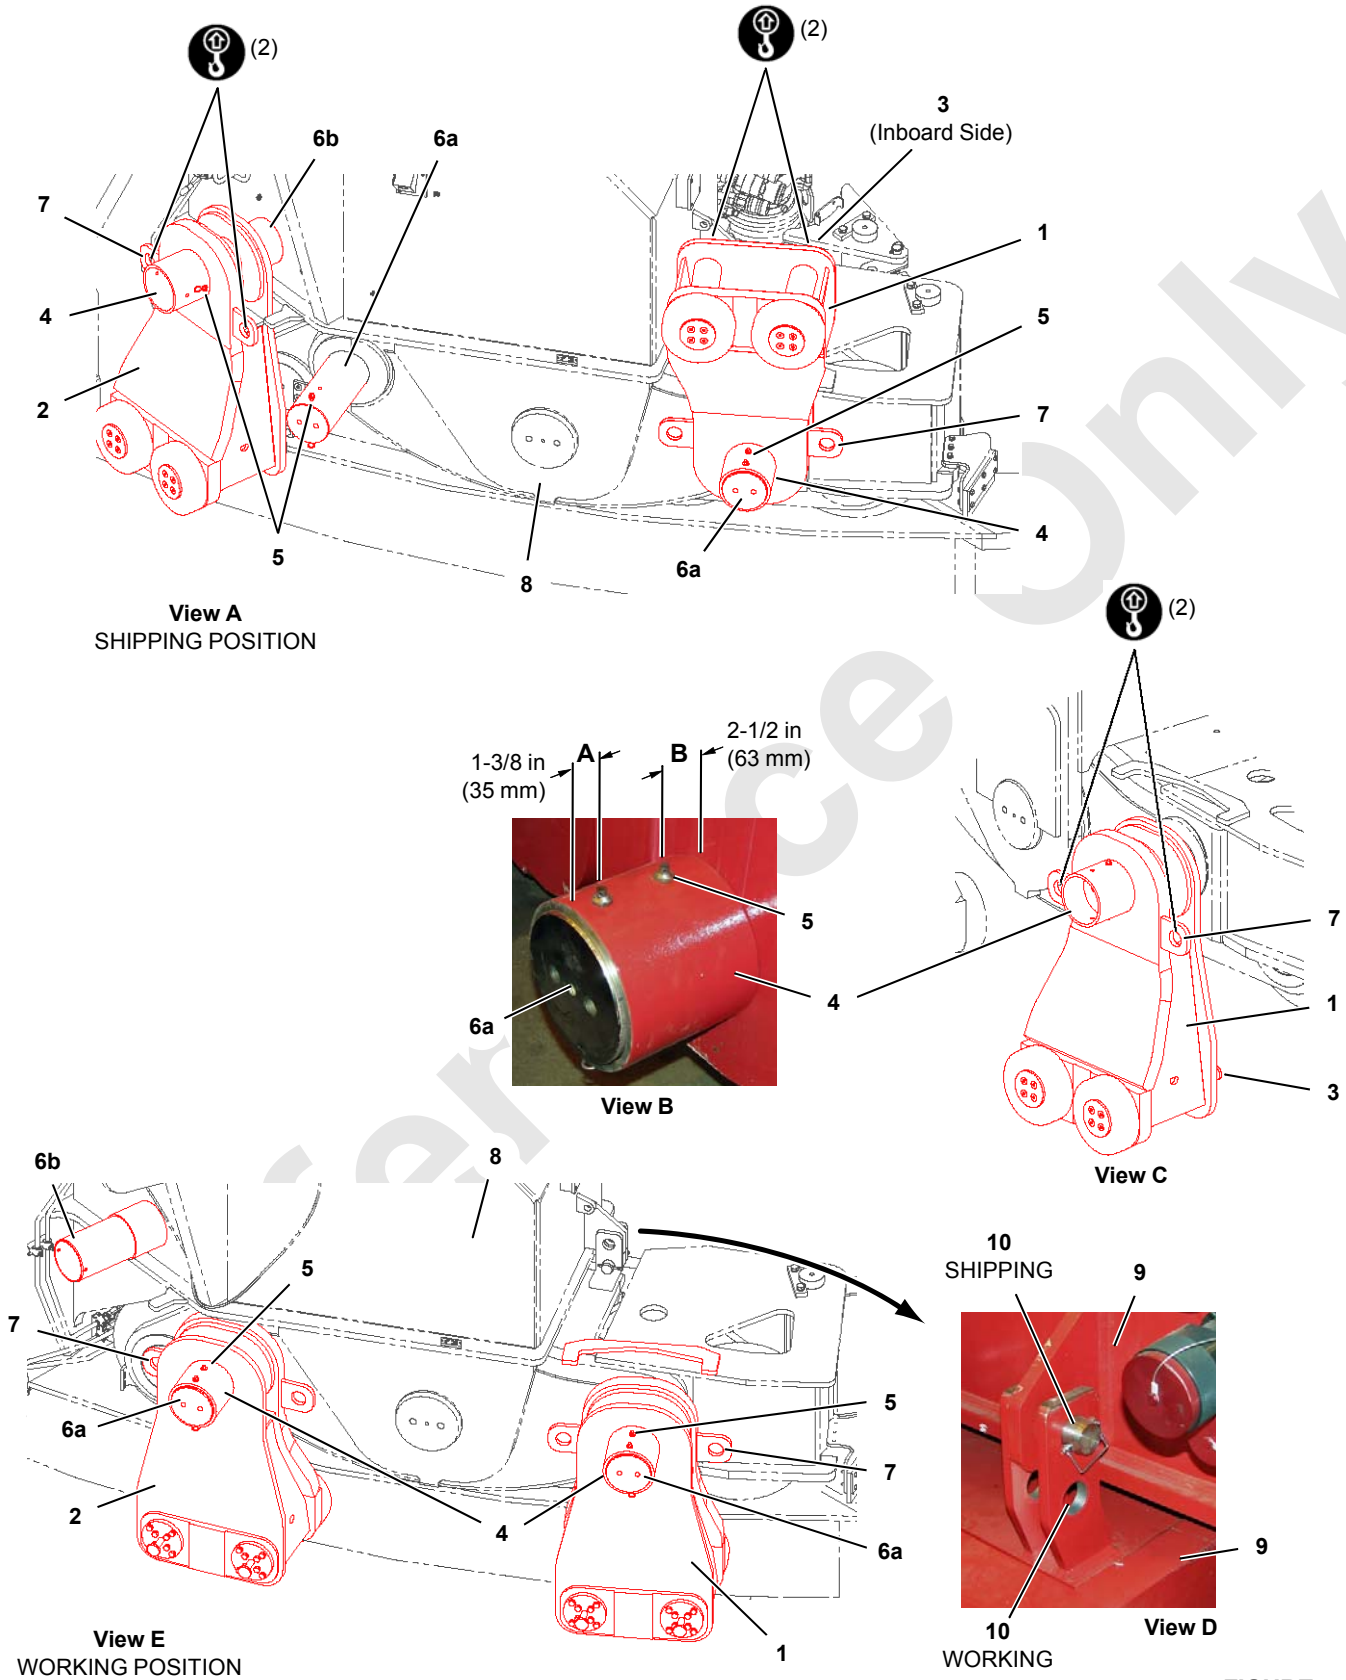

FIGURE 5-121
Legend for Figure 5-121
Perform the following steps at all four roller frames (9, Figure 5-121, View D).
See Figure 5-121 for the following procedure.
Rear roller carrier (8) is shown in Figure 5-121, but the procedure is identical for both roller carriers.
- d. Attach the chain lifting sling to lifting lugs (7, View E) on hook roller (1).
- a. Attach the chain lifting sling to lifting lugs (7, View E) on hook roller (2).
- d. Slide hook roller (2) off the pivot pin.